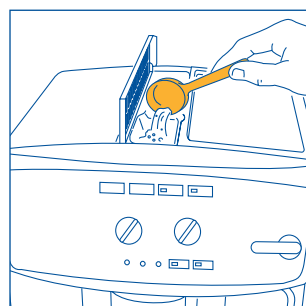

Fig. 19
2. Lift the lid in the centre, insert the pre-ground coffee measure in the funnel (see fig. 19) and proceed as described in paragraph 5.